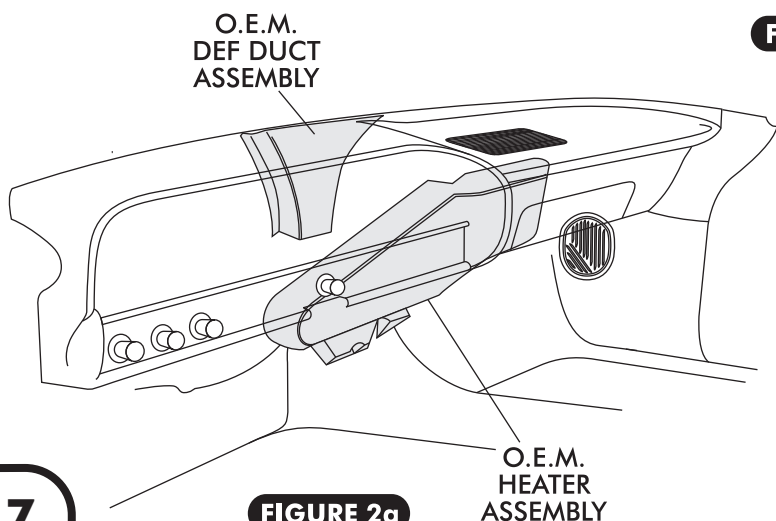

FIGURE 2a
- ☐ REMOVE O.E.M. HEATER ASSMEPLY SEE FIGURE 2a BELOW.
- ☐ REMOVE O.E.M. DEFROST DUCT ASSEMBLY, SEE FIGURE 2a & 3 BELOW.